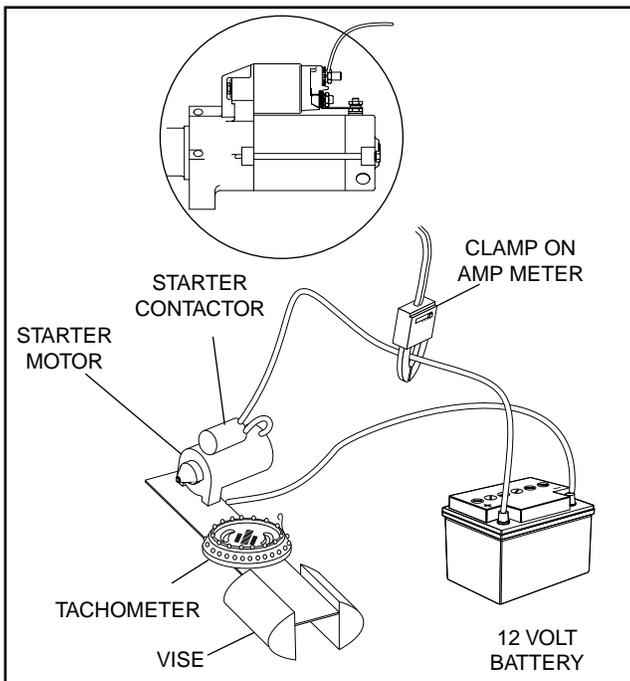

Figure 17. Testing Starter Motor Performance
It is recommended that the starter motor be removed from the engine when testing starter motor performance. Assemble starter to test bracket and clamp test bracket in vise, Figure 17.
2. Connect jumper cables and clamp-on ammeter as shown in Figure 17.